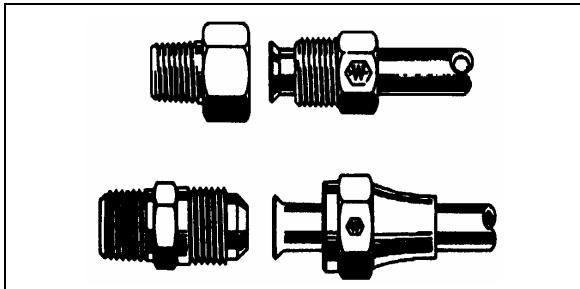

FIGURE 45: HOSE FITTINGS 12053
**45° Flare and Inverted Flare:** Tighten assembly with a wrench until a solid feeling is encountered. From that point, tighten 1/6 turn (Fig. 45).